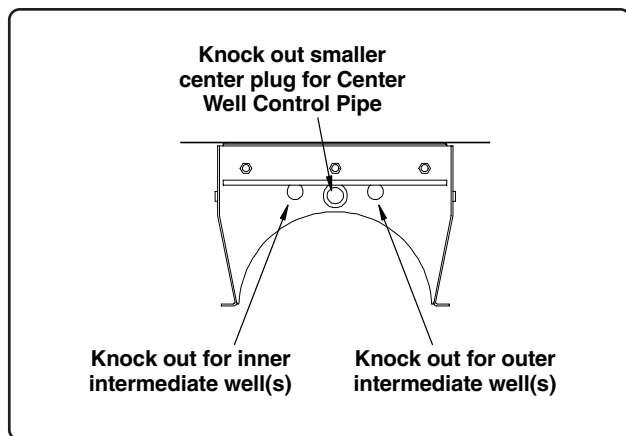

Fig. 14
1. Knock out the smaller hole on the front and rear side of any intermediate well located between the bin wall and center well (See Fig. 14).